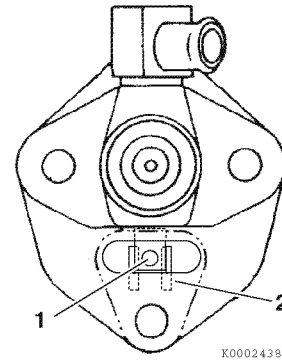
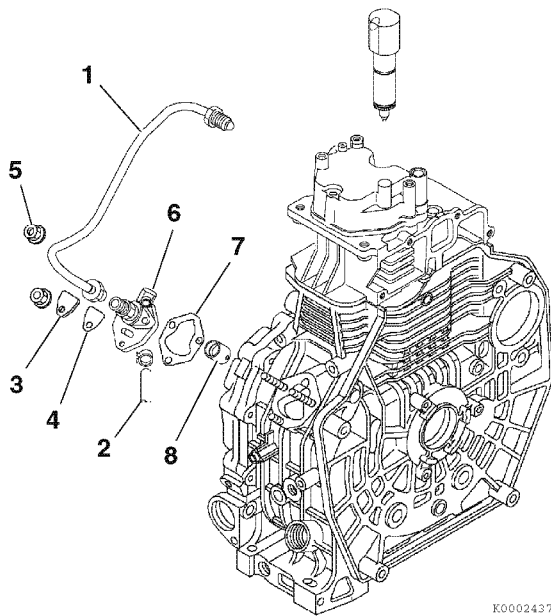

Figure 7-18
Figure 7-19
- Install the original fuel injection pump shim(s) (7, **Figure 7-19**).
- Install the fuel injection pump (6, **Figure 7-19**) into the crankcase, ensuring that the fuel injection pump lever pin (1, **Figure 7-18**) is engaged in the governor lever fork (2, **Figure 7-18**).
- Install the two side mounting nuts (5, **Figure 7-19**) and tighten to specification. See *Special Torque Specifications* on page 7-4.
*Note: If the original fuel injection pump, camshaft and injection pump tappet (8, **Figure 7-19**) are being reused, you do not need to recheck the fuel injection timing. If any of these components have been replaced, it will be necessary to check the fuel injection timing. See *Checking and Adjusting Fuel Injection Timing* on page 7-10.*
- Install the inspection cover (3, **Figure 7-19**), gasket (4, **Figure 7-19**) and nut. Tighten to specification. See *Special Torque Specifications* on page 7-4.
7. Install the fuel injection high-pressure fuel injection line (1, **Figure 7-19**). Tighten the nuts to specification. *See Special Torque Specifications on page 7-4.*
8. Install the fuel supply line (2, **Figure 7-19**).